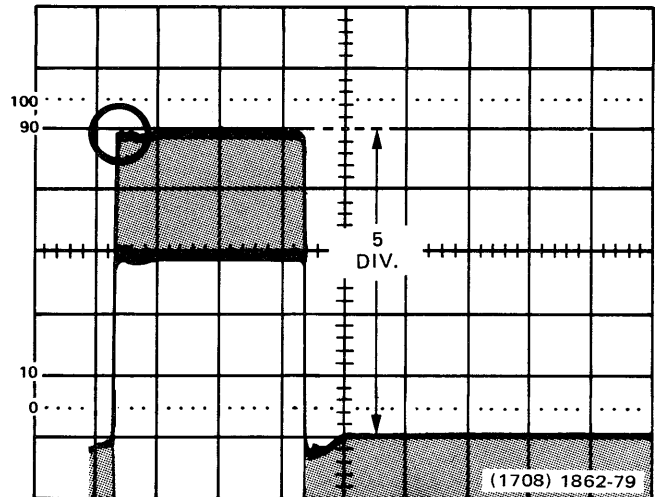

Fig. 6-1. Typical display when Z-Axis Compensation is properly adjusted. Circle surrounds compensated portion of waveform.
d. Adjust 475A INTENSITY for a positive step amplitude of 1 volt (5 divisions) on test oscilloscope display. See Figure 6-1.
e. CHECK—For a flat-top waveform in the first 20 nanoseconds from front corner. See Figure 6-1.